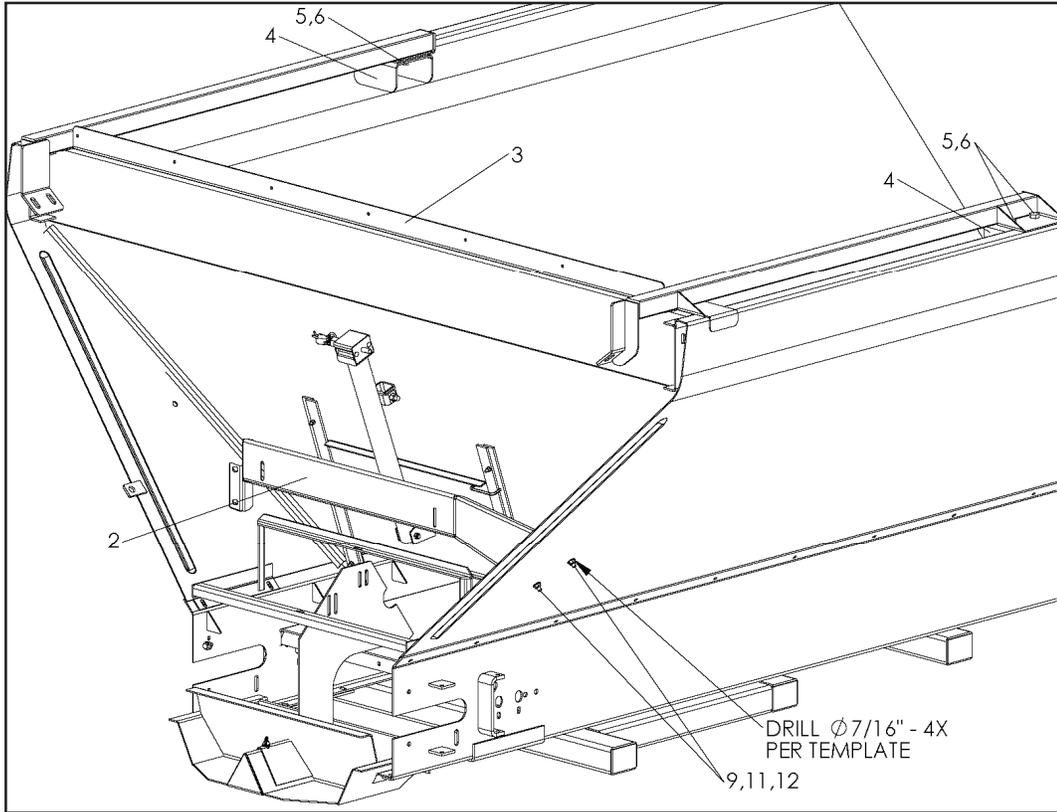

**Figure 2 – Template**
1. Locate holes in side sheets using the template (1, Figure 2) supplied with the mount kit and drill as specified.